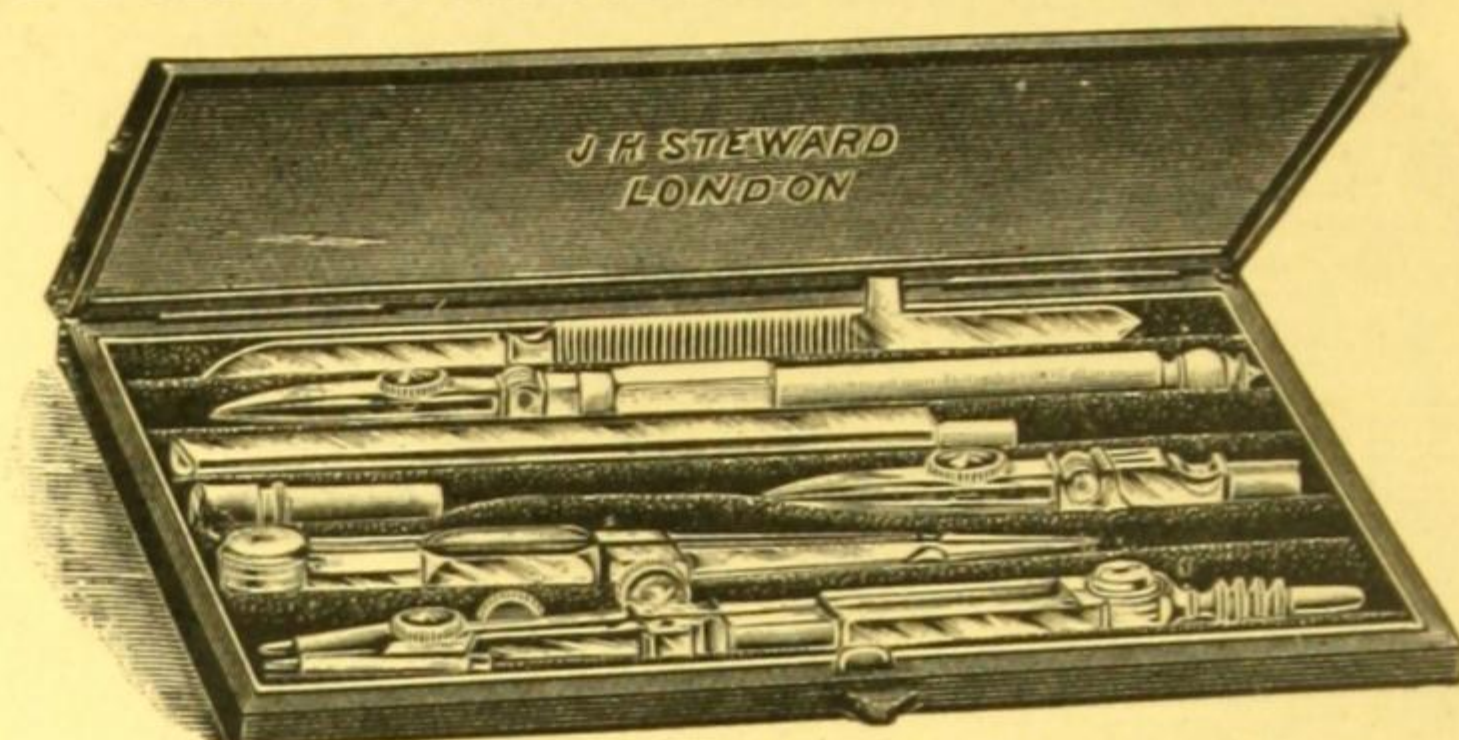

Fig. 170. £2 5 0
- SM 680.—**Small Size Pocket Snap Case**,  $6 \times 3\frac{1}{2}$ -inches containing the following first grade English electrum instruments.  $4\frac{1}{4}$ -inch Bow Compass, with double knee joints, sector head and nut and bolt needle point pen and pencil legs with hinged nib to pen, and lengthening bar making it possible to describe circles up to 16-inches diameter; 4-inch Hair Divider with sector head;  $4\frac{1}{2}$ -inch Drawing Pen with square on ivory handle and hinged nib..... Fig. 170 £2 5 0